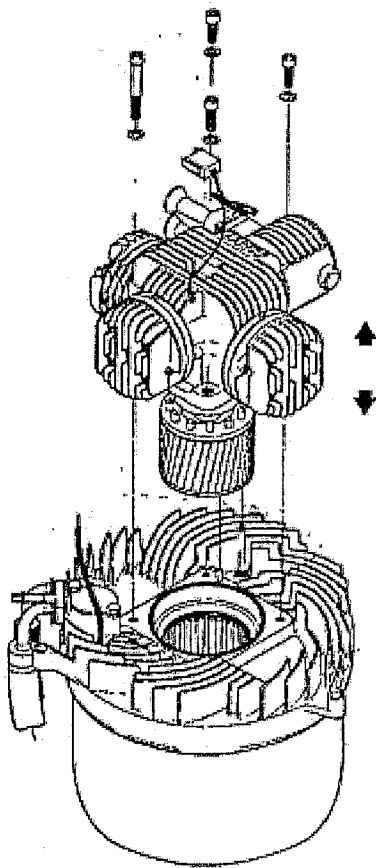

Figure 9 Compression Module Removal
- Completely remove the 4 *Compression Module* bolts and washers (See Figure 9).
**NOTE:** To prevent damage in transit - Before packaging the *Compression Module* for shipment to a maintenance/repair facility, remove and retain the *funnel* and secure the *hour-meter* in the pocket provided using tape (See Figure 9).